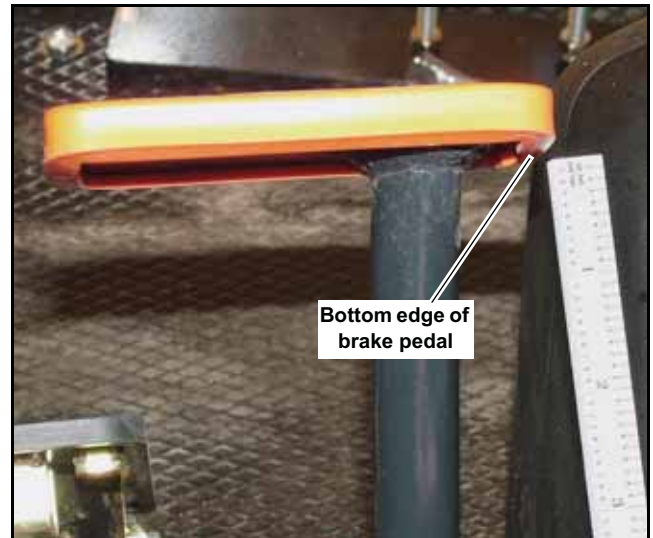
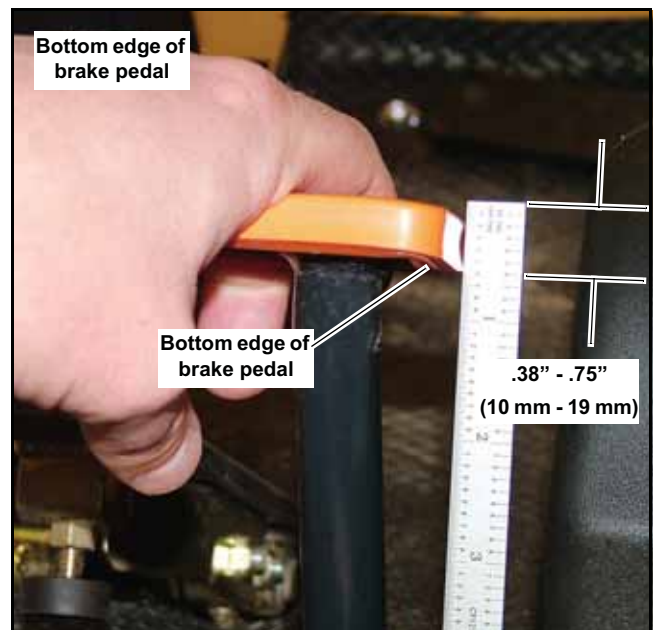

Figure 4-33
Figure 4-34
- a. There is less than 0.38 in. (10mm) or more than 0.75 in. (19mm) of free travel in the brake pedal (Figure 4-33 & Figure 4-34), or,
2. Check the free travel of the brake pedal (Figure 4-33 & Figure 4-34). This is determined by the distance the brake pedal travels from its rear most position pushing forward on the pedal until you feel the brakes beginning to engage. Measure this distance - if it is more than 0.75 in. (19mm) or less than 0.38 in. (10mm), the brakes must be adjusted.